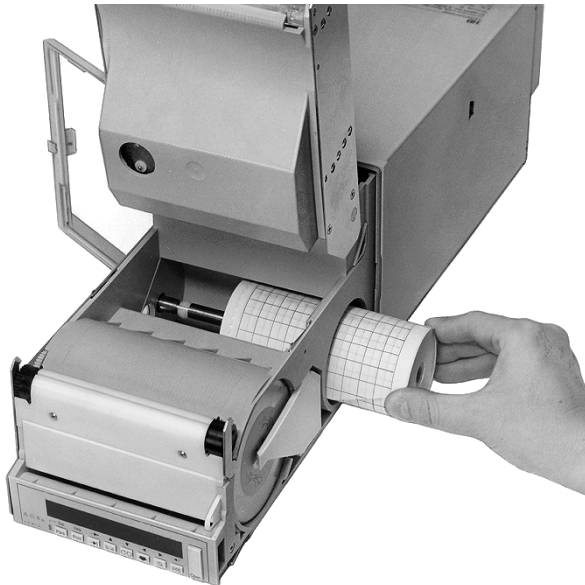

Figure 10
(see Figure 6 ... Figure 10)
5. Insert the roll chart from the side (see Figure 10).
10. Insert a new chart roll (siehe Figure 10).